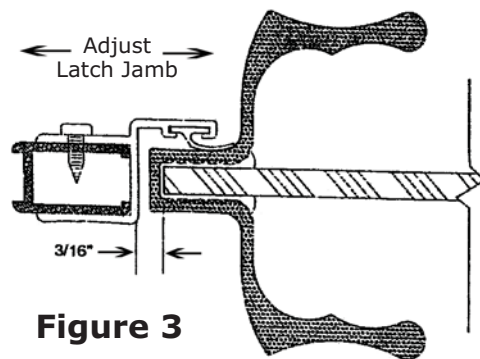

Figure 3
3. Set latch jamb (18) in place over wall channel, but **DO NOT SECURE**.
4. Set hinge jamb with door attachment (2 & 11) in place over wall channel. Adjust laterally, plumb to fit opening. Mark three holes on wall channel through the pre-drilled holes on hinge jamb. Drill three holes with a #31 drill bit and secure with #6 x 3/8" SMS screws (21).
5. Apply 3" vinyl channel (19) to edge of glass, centered on handle side. Tap handle (20) in place over vinyl channel.
7. Replace wall channel and secure remaining two holes in wall channel using two #8 x 1 1/2" screws (17).
8. Replace latch jamb over wall channel. Close door and adjust latch jamb 3/16" from edge of glass (See Figure 3). Through the holes provided in the latch jamb, drill three #31 holes in wall channel. Secure latch jamb to wall with #6 x 3/8" SMS screws (21).